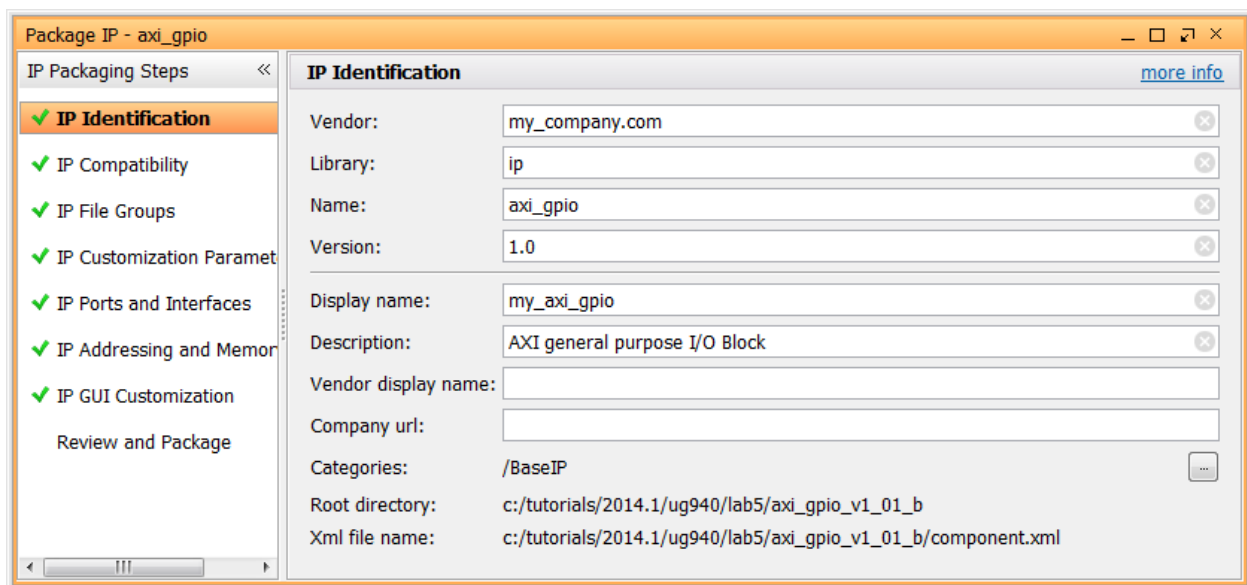

Figure 150: Package IP - IP Identification
10. Review the various sections of the Package IP window, as seen in FIGURE 150, and update information as required. The Package IP window shows the current IP identification, including the Vendor, Library, Name, and Version (VLNV) attributes of the newly packaged core.